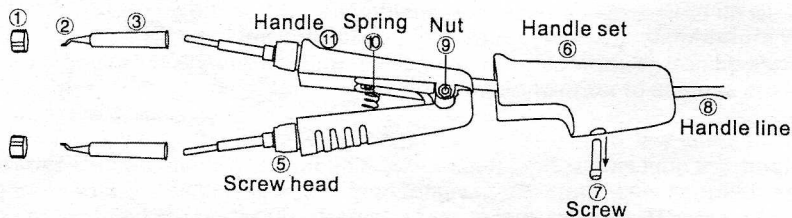
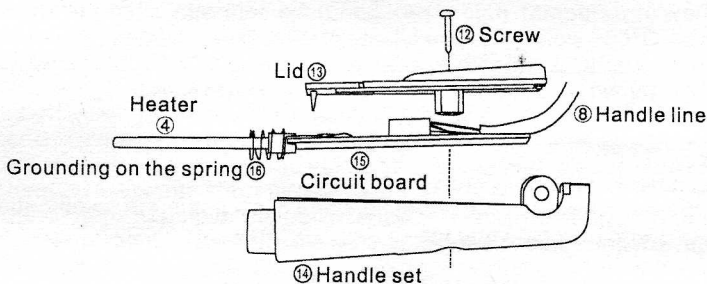

Figure 3
Figure 4 Heater replacement
2. Replace the heating core (Figure 3 - Figure 4)